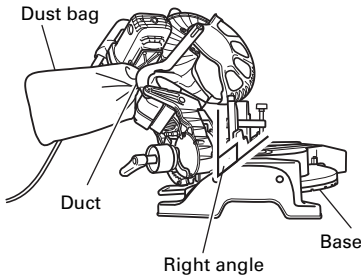

Fig. 43
- (1) When the dust bag has become full of sawdust, dust will be blown out of the dust bag when the saw blade rotates. Check the dust bag periodically and empty it before it becomes full.
- (2) During bevel and compound cutting, attach the dust bag at a right angle to the base surface as shown in Fig. 43.